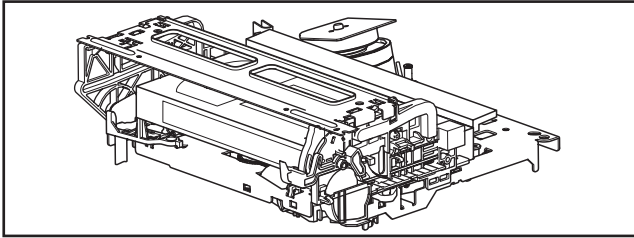

Fig. 5-1a
- (1) Unplug the power cord plug from the power outlet.
- (2) Refer to the disassembly procedure of the VCR and perform the disassembly of the major parts before removing the mechanism assembly. (See Fig. 5-1a)